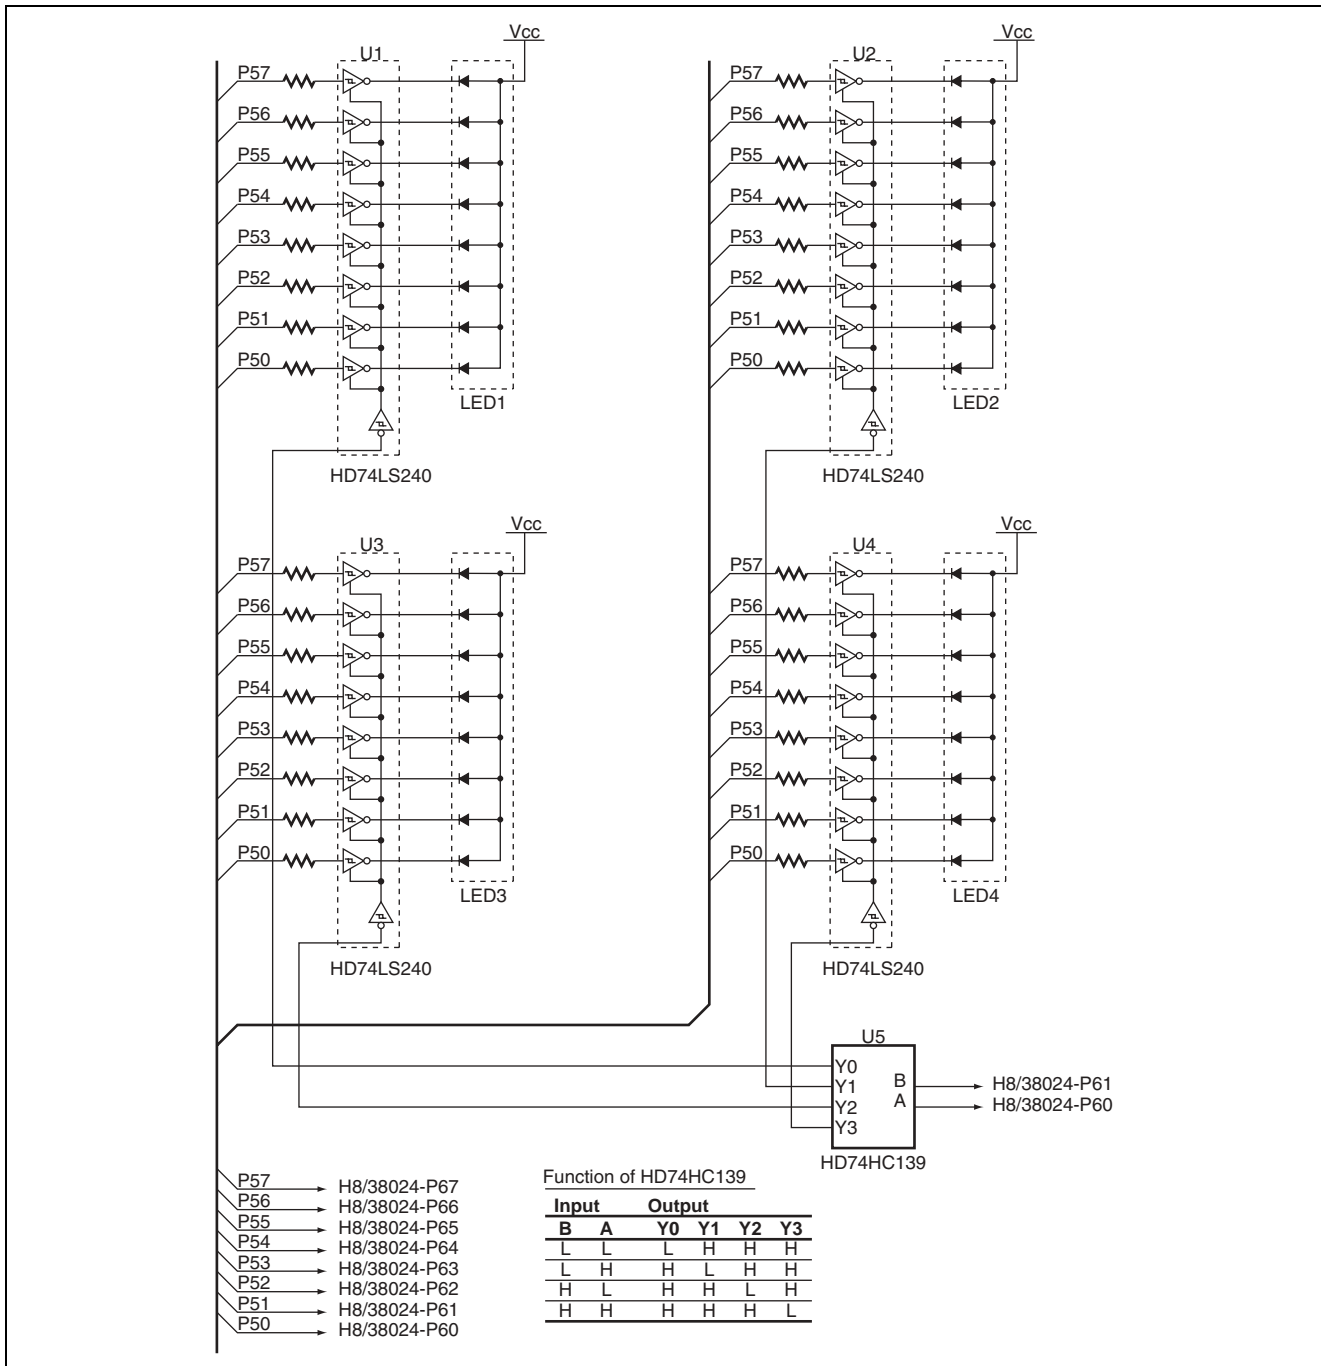

Figure 1.2 7-Segment LED Control
7. In this sample task, display on the 7-segment LED is handled by attaching port outputs to the inputs to the tri-state-output inverter drivers (HD74LS240), and the driver outputs are in turn connected to the cathodes of the 7-segment LEDs. The port outputs are connected to each of the four 7-segment LEDs to control the display on the LEDs. The enable pins of the tri-state inverter driver control switching of display on the 7-segment LEDs. The signals used to switch the display are generated by the 2-to-4-line decoder (HD74HC139), which is controlled by two port-pin outputs. Figure 1.2 shows how the 7-segment LEDs are controlled.